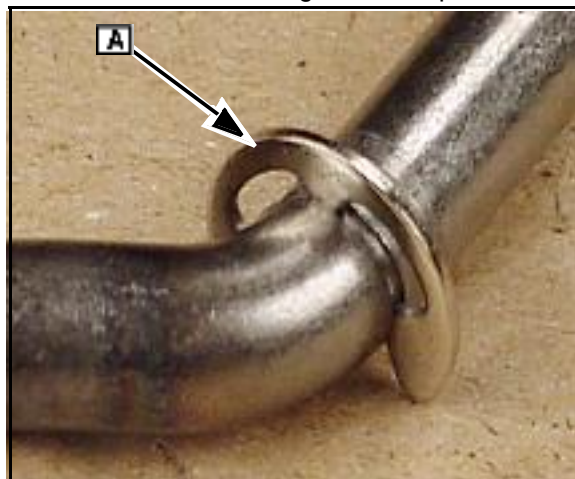

Fig. 11
5. Install E-clip ([A] Fig. 11) on governor crank and push crank up through cylinder housing and install thrust washer. Make sure the paddle of the governor shaft rests on the face of the governor cup.
5. Install E-ring (if equipped) in groove on governor crank (F). (Refer to Fig. 11).